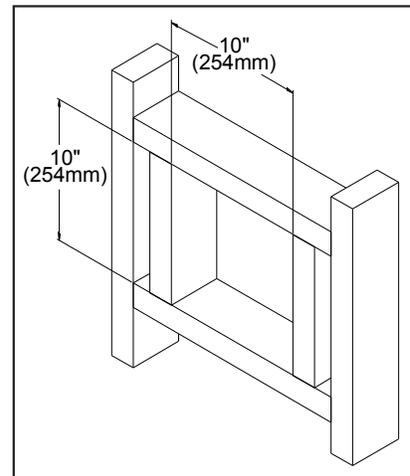

Figure 26: Wall Framing Hole for Horizontal Installation.
4. Frame the hole as shown in Figure 26.
5. Trim the wall thimble to match the wall thickness as necessary. Install the wall thimble and secure it to the inner wall frame using four (4) 1 1/2" wood screws. If a wall is greater than 8" (203mm) in depth, the clearance above the flex must be 4 3/8" (111mm)
3. With the pipe attached to the stove in the correct location, mark the wall for a 10" (25.4cm) x 10" (25.4 cm) square hole (refer to Figure 26). The center of the square hole should match the center line of the horizontal pipe. Cut and frame the 10" (25.4cm) x 10" (25.4cm) hole in the exterior wall where the vent will be terminated. Refer to Figure 18. If the wall being penetrated is constructed of non-combustible material i.e. masonry or concrete, a 7" (17.8cm) hole is acceptable.